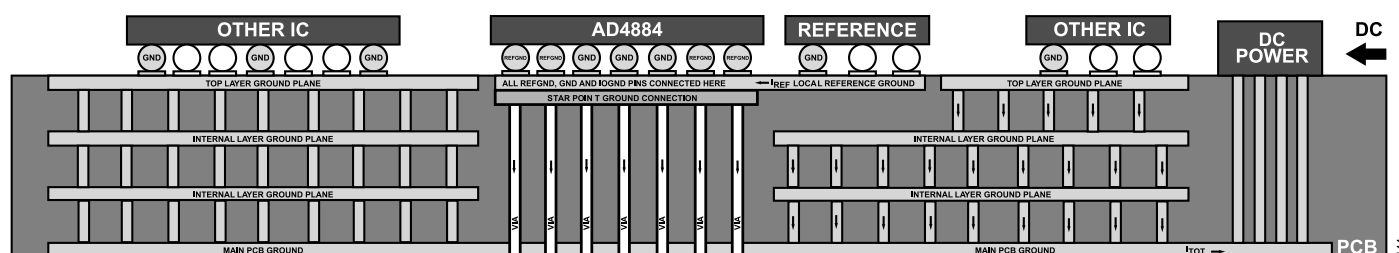

Figure 145. Recommended PCB Ground Planes Layout
- ▶ For the side view cross-section of the PCB board showing the ground planes distribution, see Figure 145. Note that Figure 145 only shows the ground planes but does not include the signal tracks.